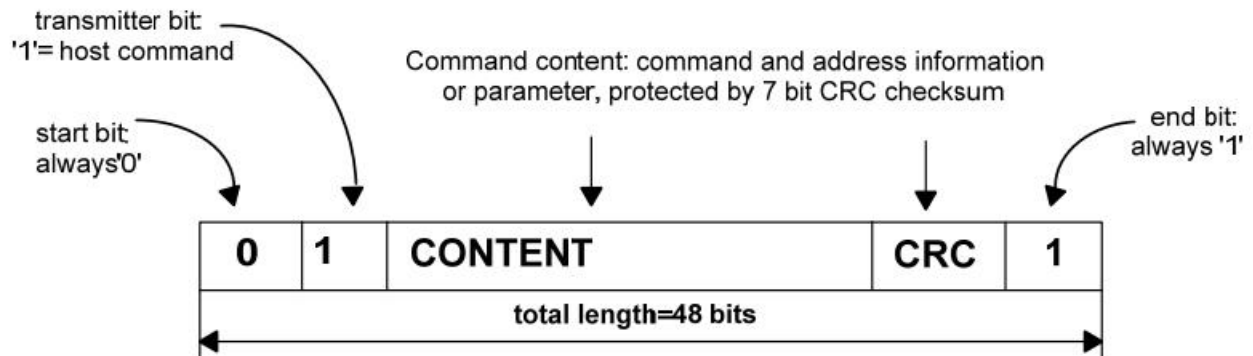

Figure 2: Command Token Format
Command tokens have the following coding scheme(refer to Figure 2).,Each command token is preceded by a start bit (0) and succeeded by an end bit (1). The total length is 48 bits. Each token is protected by CRC bits so that transmission errors can be detected and the operation may be repeated.